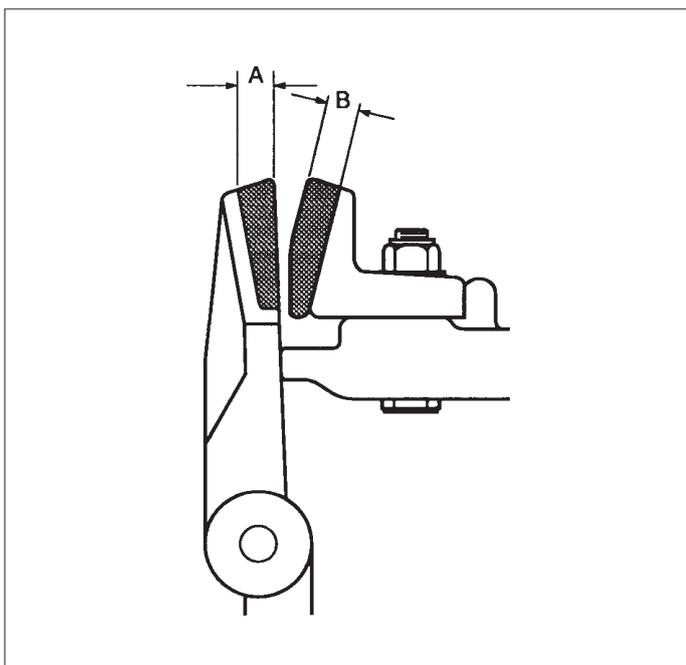

Fig. 7. Tolerance limits for contact erosion.
For a new contact with tips of copper-tungsten (Fig. 7), the thickness at (A) and (B) is 5.5 mm in the upper end of the contact. In the lower end, the thickness is 3 mm.